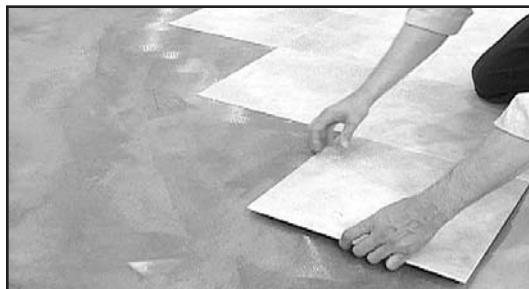

Fig. 15 - Install ungrouted floors following a stair-step pattern.
- When installing an ungrouted floor, continue setting the tiles in a stair-step pattern along the center and perpendicular lines (Fig. 15). Hold the tile in a low angle to the floor and position it tightly against the previously laid tile. Press it firmly into the adhesive. Continue working toward the walls to complete the first quadrant before starting the next. Check to make sure corners are lined up and adjust if necessary to prevent run-out.